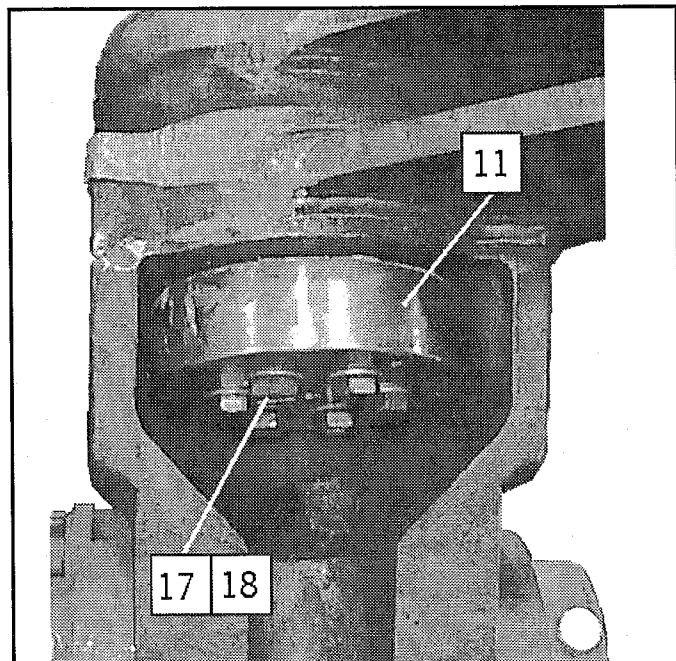

Fig. 6-8 Feed Table Pivot Pin
6. Remove the 6 capscrews and the retaining cap that retains the feed mounting pin in the positioner (fig.6-8).